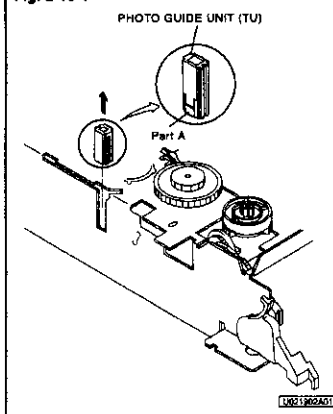

Fig. 2-19-2
- 2 Remove the PHOTO GUIDE UNIT (TU) shown in Fig. 2-19-2 in the direction shown by the arrow.
- 1 Push the PHOTO GUIDE UNIT (TU) into the DECK to the bottom, with the part A shown in Fig. 2-19-2 toward the inside of DECK.